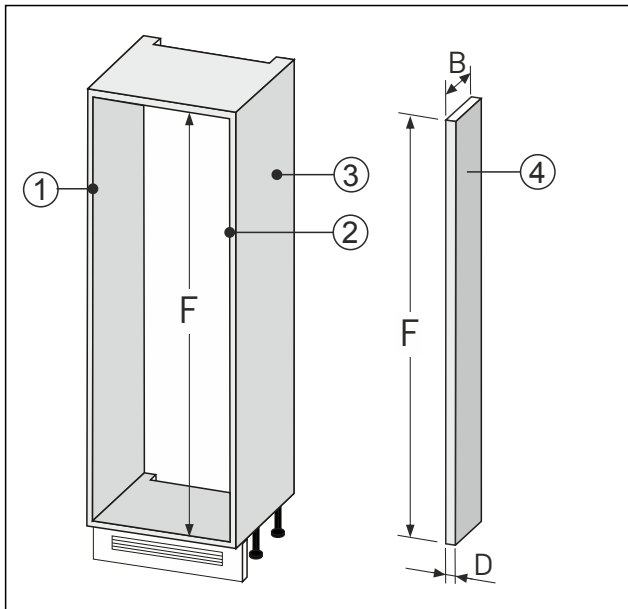

Fig. 89
- Construct the wall levelling Fig. 89 (4) in accordance with the dimensions given above.